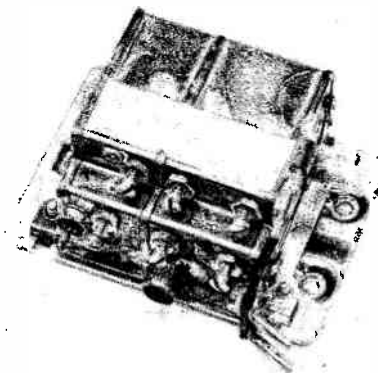
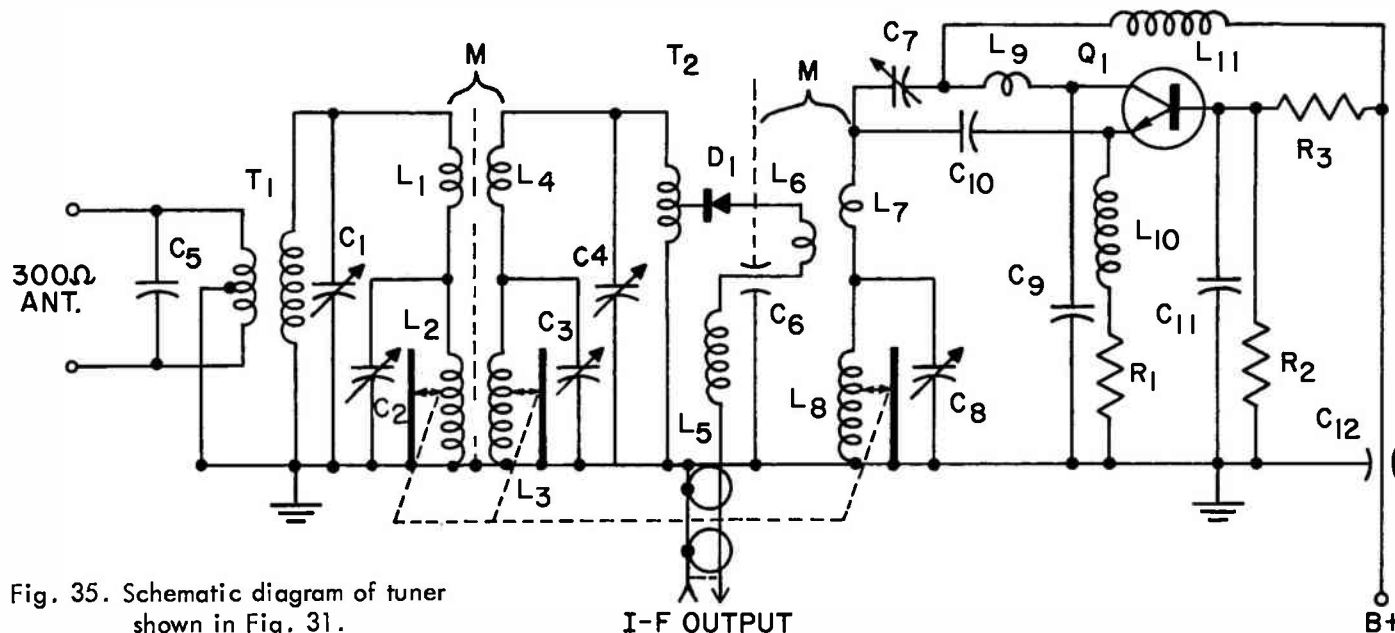
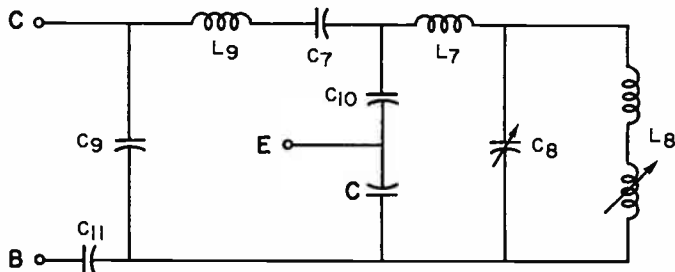

Fig. 34. Photo of modern UHF tuner.
Fig. 35. Schematic diagram of tuner shown in Fig. 31.
Fig. 37. Schematic of an oscillator tuned circuit.
An example of a modern UHF converter is shown in Fig. 34. The schematic of the tuner is shown in Fig. 35. This tuner is used with the VHF tuner shown in Fig. 33 to provide all-channel TV reception.
While UHF tuners using vacuum tubes have been made, most modern tuners use transistor oscillators. There were a few tuners made using tubes that were almost identical to the one shown in Fig. 34, but this tuner was discontinued in favor of the transistor model.
The transistor used in the Fig. 35 oscillator circuit is a silicon planar epitaxial type. It is used in a common base circuit. A simplified schematic of the oscillator tuned circuit at 470 mc is shown in Fig. 37. As the oscillator is tuned towards 890 mc, C_8 is shunted by a continuously smaller value of inductance and thus the shorting effect increases as in the rf circuit to keep the effective L/C ratio constant and to provide the required wide tuning range. C_{10} is the feedback capacitor; C is emitter-to-base and stray shunt capacities.
- (ab) In the UHF tuner shown in Fig. 35, what are two advantages of changing both L and C across the tuning range?
- (ac) What type of circuit is used in the oscillator in Fig. 35?
- (ad) Why are the inductance rings in the UHF tuner in Fig. 35 silver-plated?